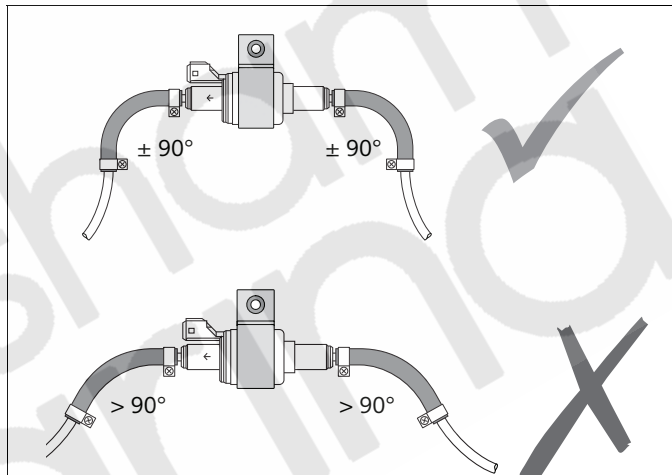

Fig. 24 Fuel line mounting
- Lay the fuel line such that the 90° bends are not stretched; see Fig. 24.